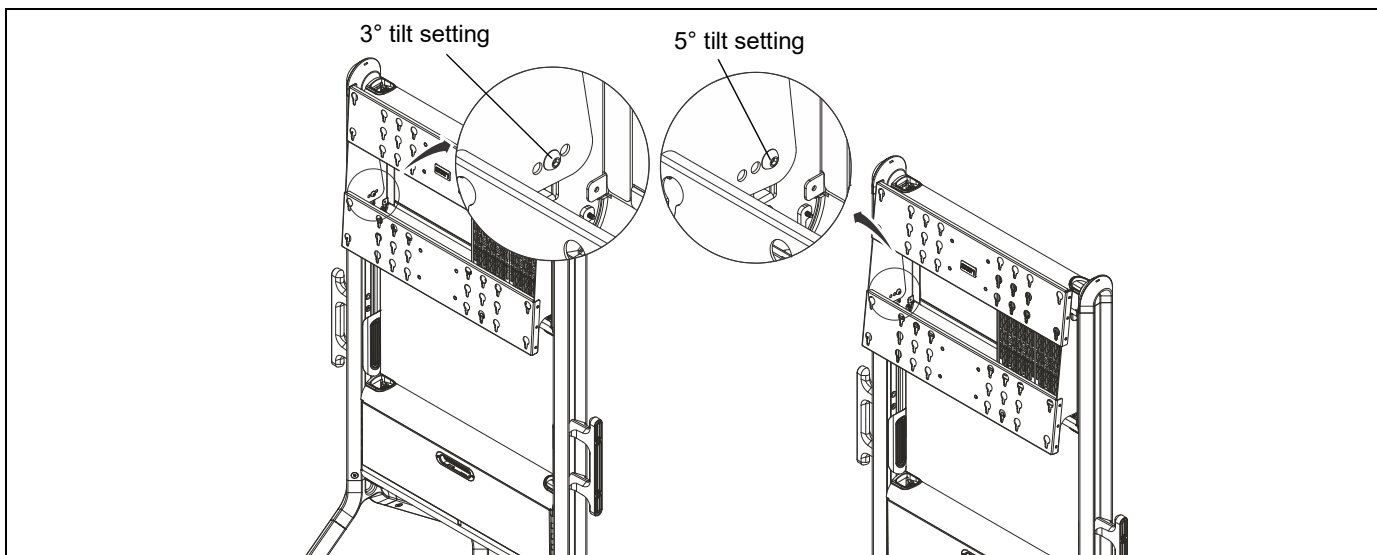

Figure 21
4. Reinstall tilt adjustment screws in desired tilt position. (See Figure 21)